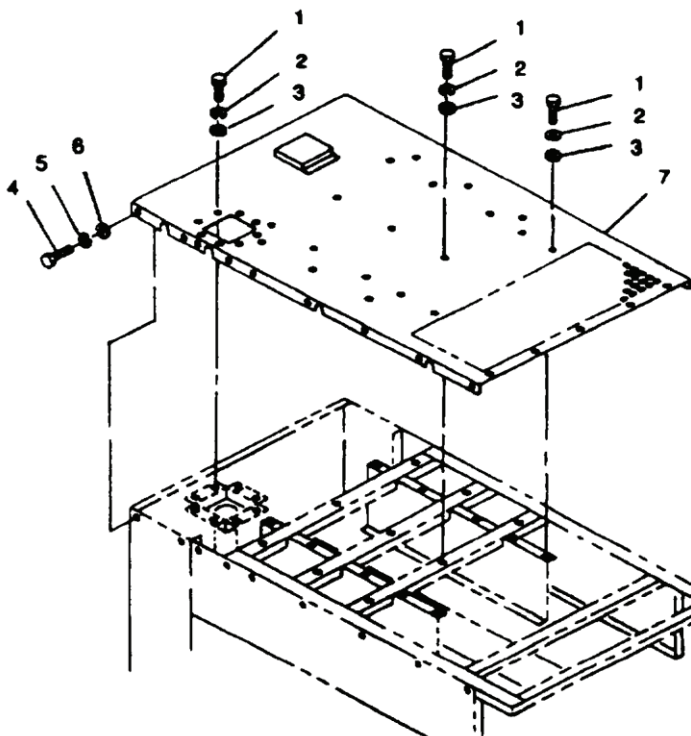

Figure 1. Top Housing Panel.
5. Remove bolts (Figure 1, Items 1 and 4), lockwasher (2 and 5), washers (3 and 6), and top housing panel (7) from generator set. Discard lockwashers (2 and 5).